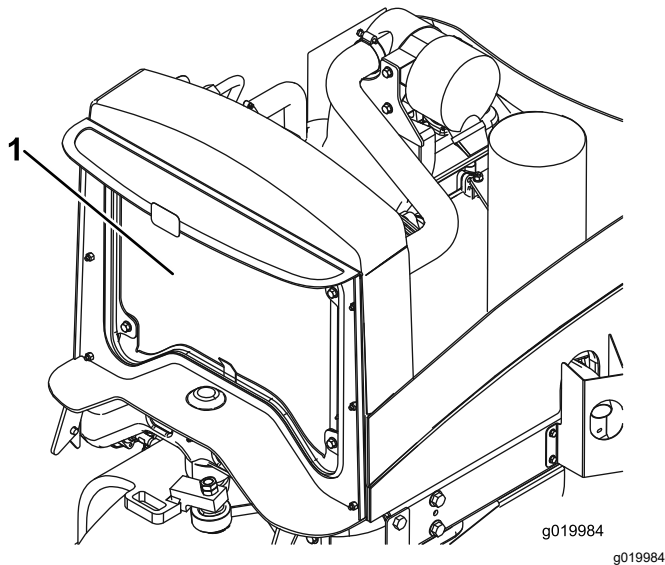

Figure 61
4. Clean both sides of the radiator thoroughly with compressed air (Figure 61).